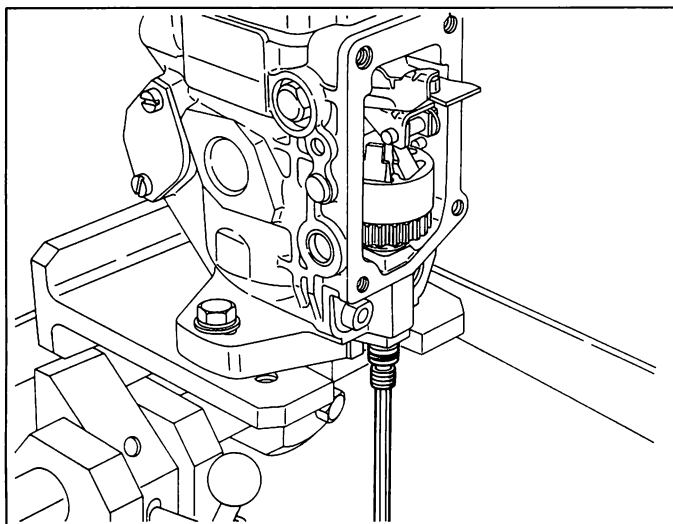

**Fig. 11 Loosening the nut**
12. Using the adjusting device (157915-2620) loosen the nut (107) and remove it. (Fig. 11)